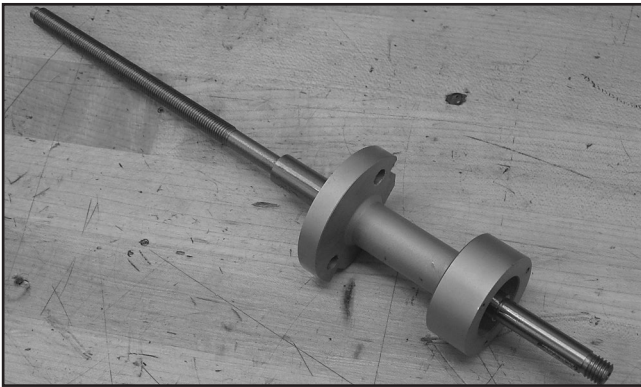

Figure 27. Adapter shaft installed on leadscrew.
10. Apply a coat of way oil on the leadscrew and slide the adapter shaft on the end of the leadscrew, as shown in **Figure 27**.